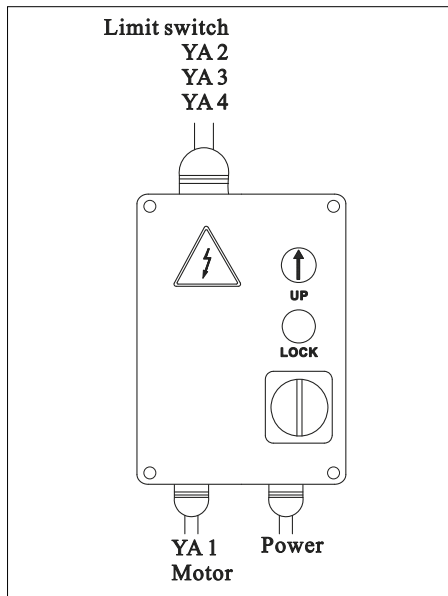

Fig. 39
4.4.3.2 Connect the power and control system to the terminal strip on the control box (**Fig. 39**), inserting the cable into the rack passing through the prepared hole and following the wiring diagram on **Page 23**.
4.4.3.4 Close the cover of the electric box, turn the main switch to position 1, press the up push button (**Fig. 39**), the motor rotation direction should be the one shown by the arrow on the pump.